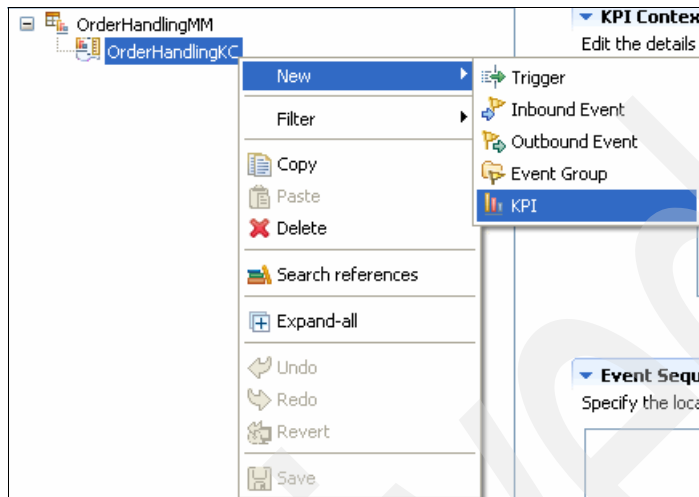

Figure 8-97 Adding a KPI
4. Right-click **OrderHandlingKC** and select **New** → **KPI** (Figure 8-97) to add a KPI.